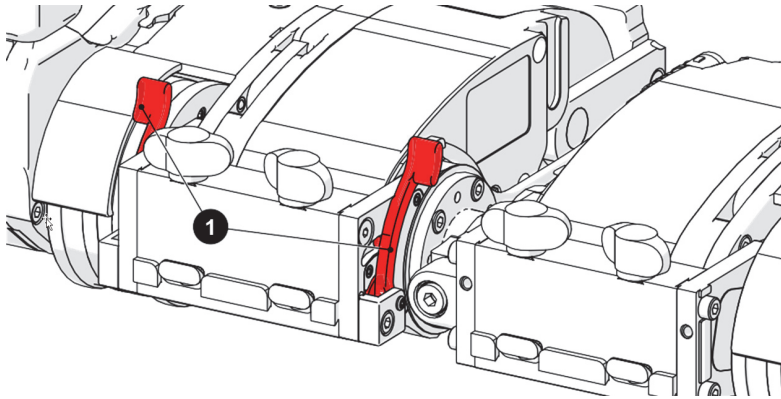

Figure 4-6 Front swivel adjustment levers
2. Raise the front swivel mounts (see “Swivel Mount” on page 52), using the swivel mount adjustment levers (see Figure 4-6 on page 172).